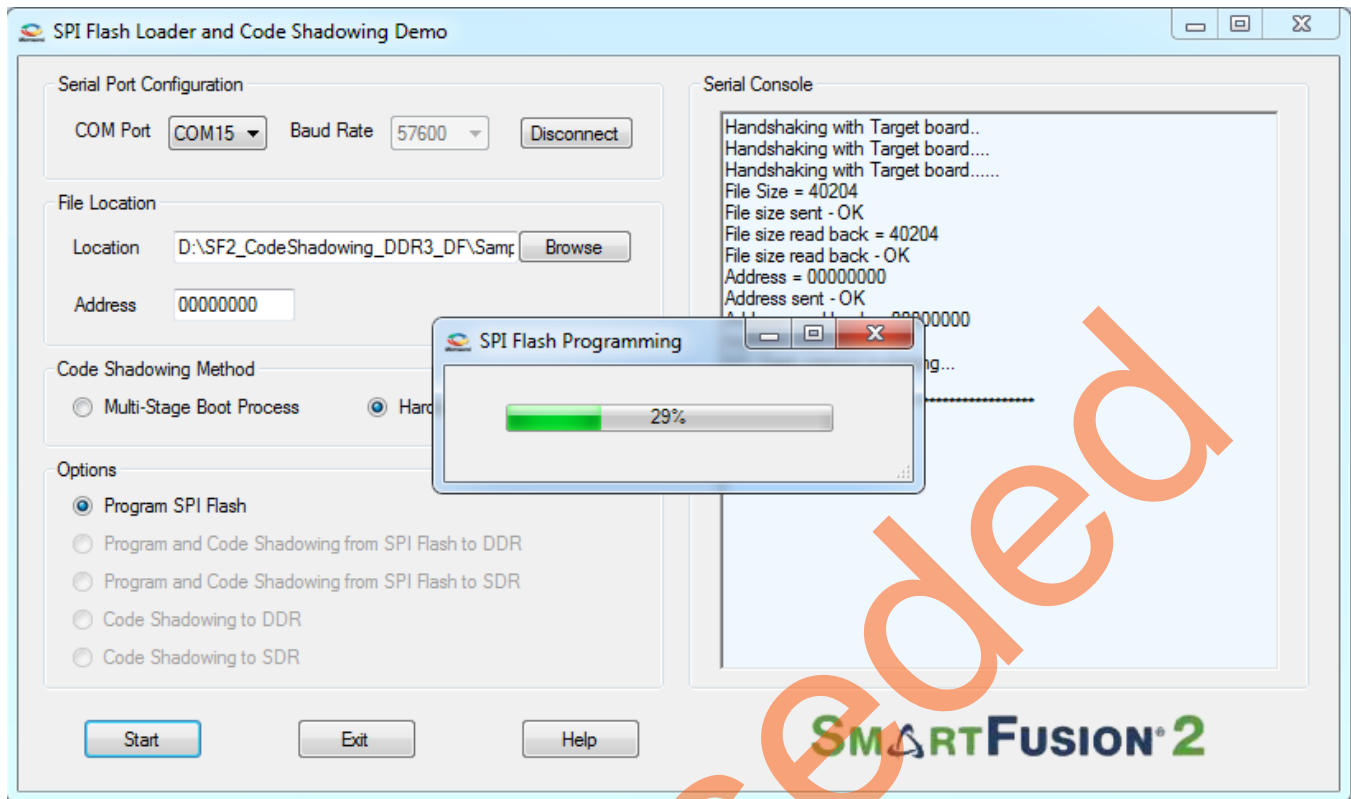

Figure 15. Flash Loading
11. The Serial Console section on the GUI shows the debug messages and the status of SPI flash writing, as shown in Figure 15.